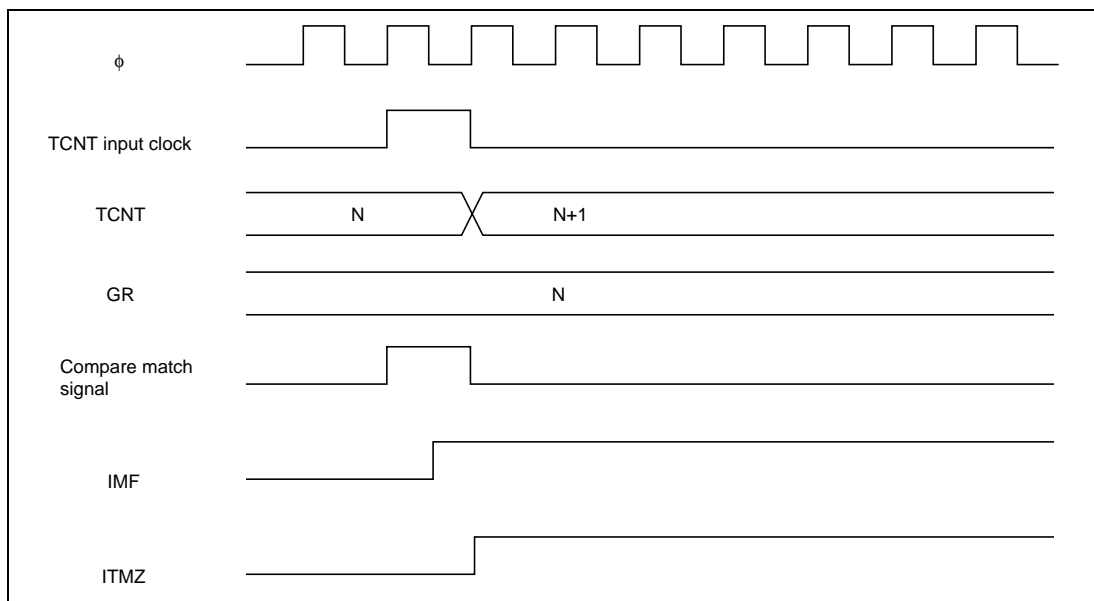

Figure 13.48 IMF Flag Set Timing when Compare Match Occurs
1. IMF Flag Set Timing: The IMF flag is set to 1 by the compare match signal that is generated when the GR matches with the TCNT. The compare match signal is generated at the last state of matching (timing to update the counter value when the GR and TCNT match). Therefore, when the TCNT and GR matches, the compare match signal will not be generated until the TCNT input clock is generated. Figure 13.48 shows the timing to set the IMF flag.